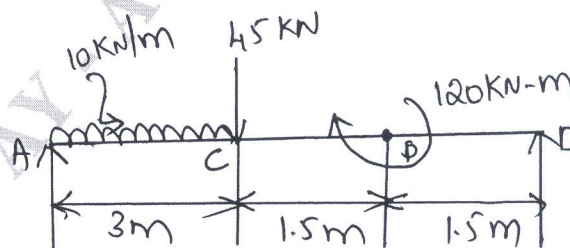

Fig.Q.5(b)
b. A simply supported beam AB of 6m span is loaded as shown in Fig.Q.5(b). Draw shear force and bending moment diagram also indicate the point of contra-flexure if any.